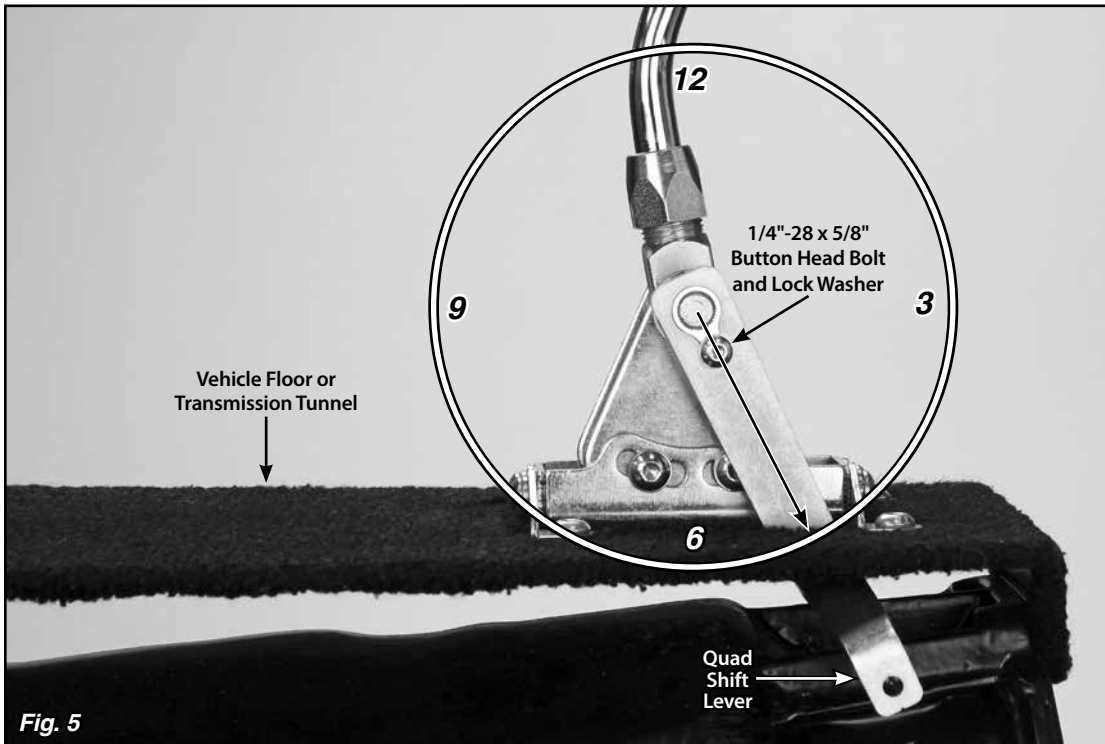

Fig. 5
Step 9: Make sure the shifter lever is in the Park position. Temporarily place the quad shift lever in position on the quad lever bushing as shown in **Fig. 5**. Check for interference with the driver side rear floor mount tab or the vehicle floor. With the shifter lever in Park, you want the quad shift lever to be as close to the 4:30 – 5:00 position as the floor mount tab will allow, without the quad shift lever touching the floor mount tab or floor.